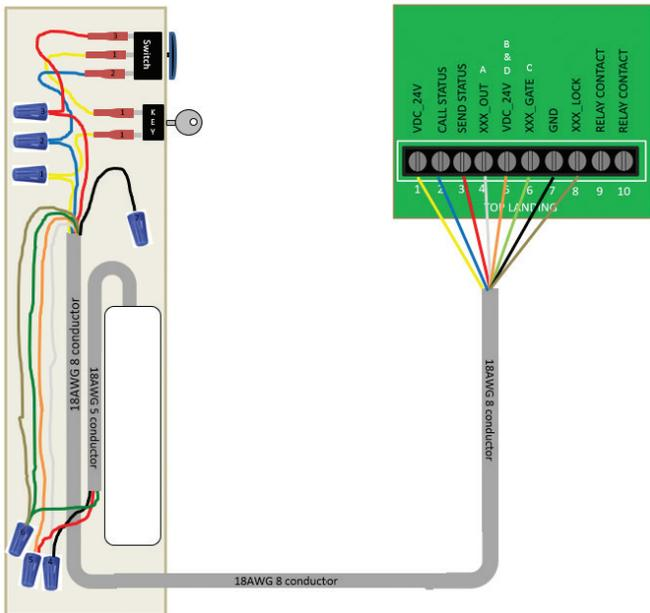

Figure 4-8
- Connect the tower wires to the interlock wires as shown. **See Figure 4-8.**
- If equipped, connect the wires to the gate call send switch. **See Figure 4-8.**